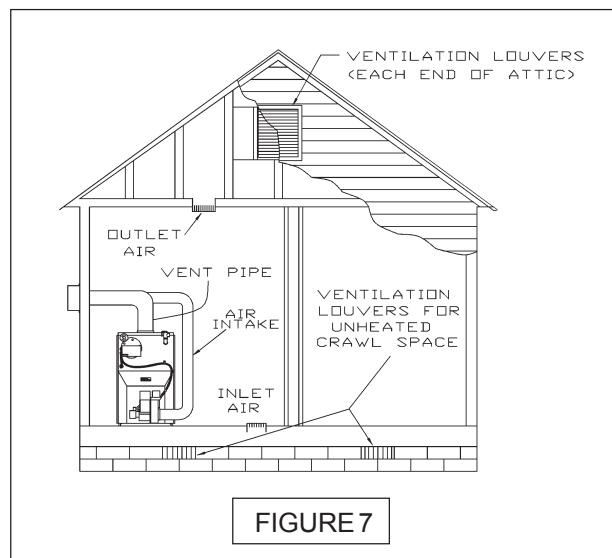

FIGURE 7
1. When directly communicating with the outdoors, each opening shall have a minimum free area of 1 square inch per 4,000 BTU per hour of total input rating of all equipment in the enclosure. See figure 7 above.